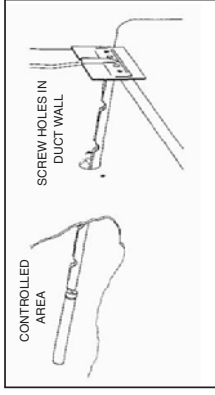

FIG. 5-INSERTION INTO DUCT
- 5 Insert bulb and holder into controlled area through hole prepared in Step 1 (Fig. 5).